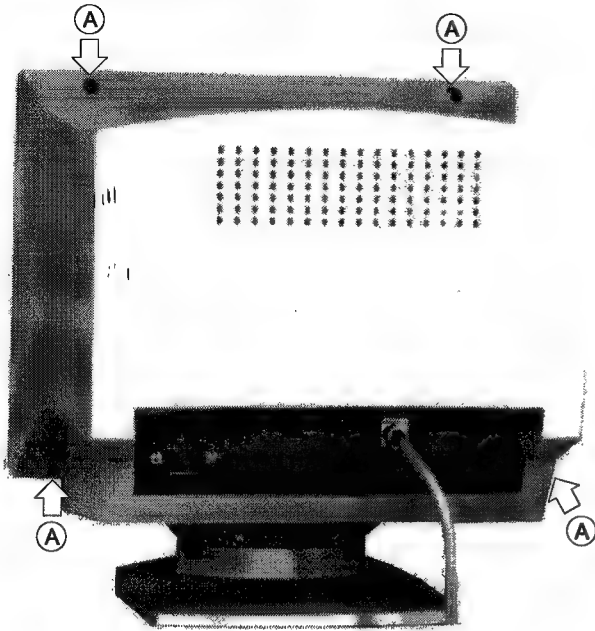

Figure 2-1 Remove the Base
1. Remove the four screws at the rear cover. Refer to the figure 2-1 (A).